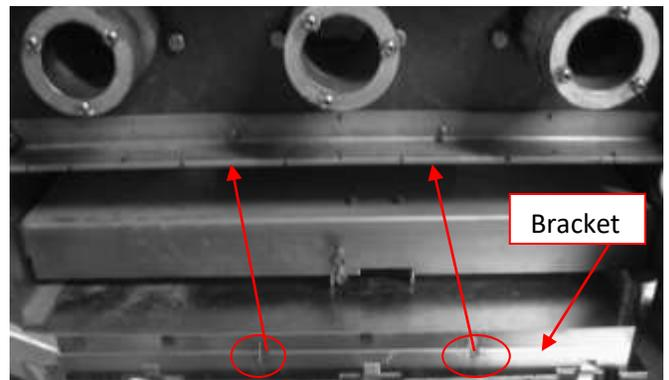

Figure 22: Attaching bracket to breaker (LA-3000 shown)
The following procedure is illustrated in Figures 22 & 23.
1. Take the bracket provided with this kit and secure it to the breaker with the provided nuts as shown in Figure 22. The new CTs will rest up against the back of this bracket.